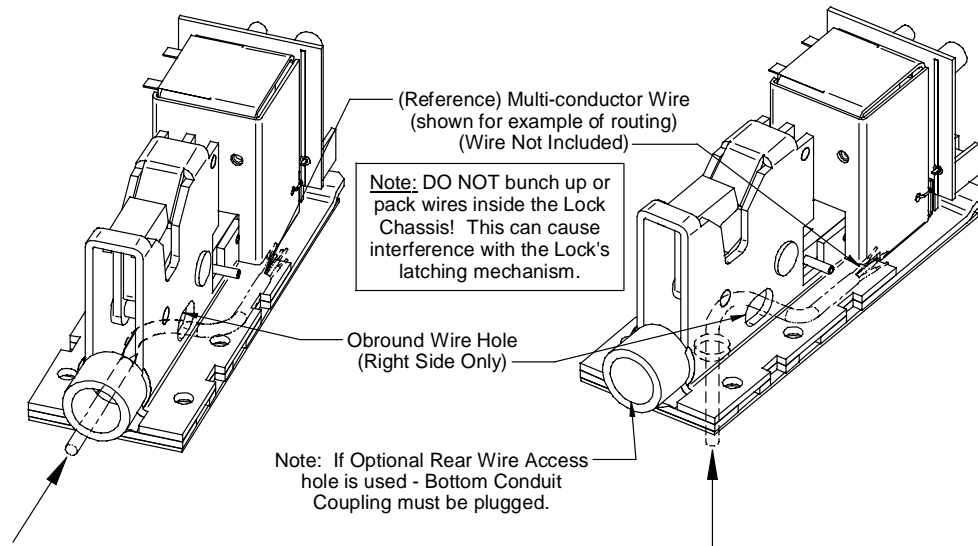

Figure 9 – Wire Routing
2. Route all electrical wiring through either the wire conduit coupling provided in the bottom of the chassis or through the optional 1/2" (12.7mm) hole in the rear of the lock mounting chassis (See **Figure 9**). **Note:** If the conduit coupling is not used, a